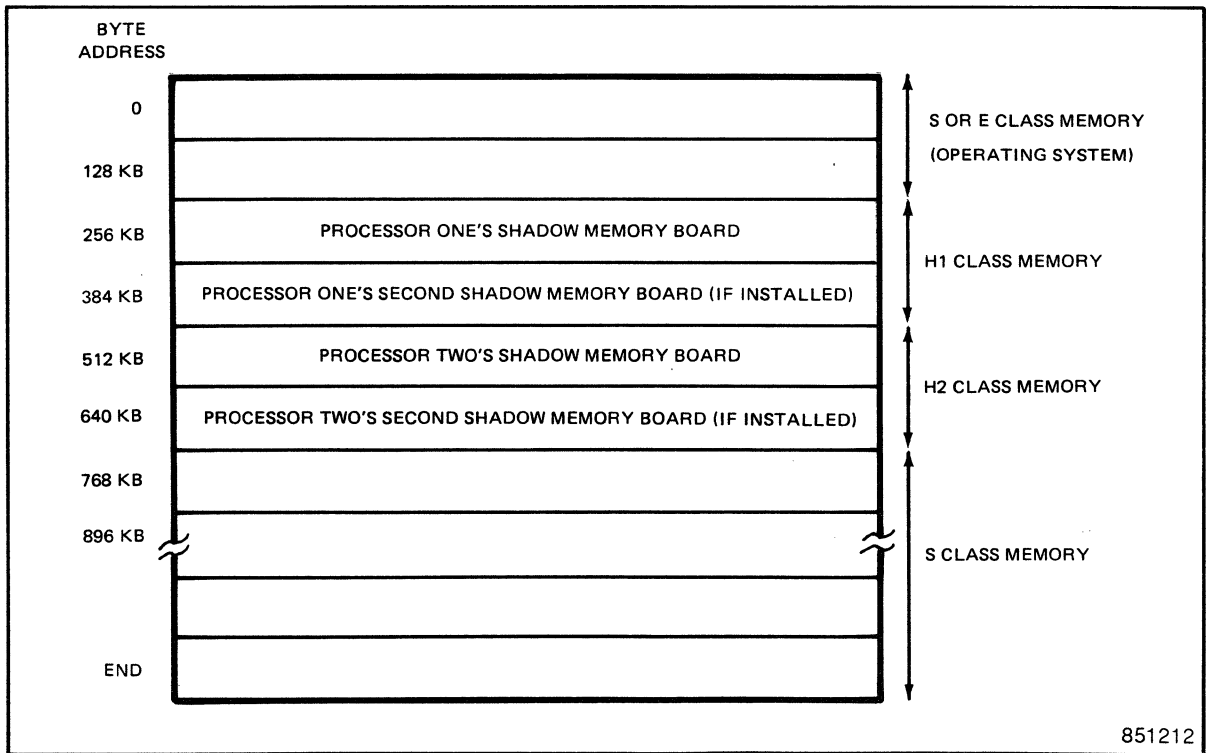

Figure 10-3. Shadow Memory Configuration with Two Processors and Two Regions of Shadow Memory
- two processors (IPU and CPU) with two nonoverlapping shadow memory regions. The starting addresses of both regions are different, and the number of shadow memory boards for each processor can be unequal. See Figure 10-3.